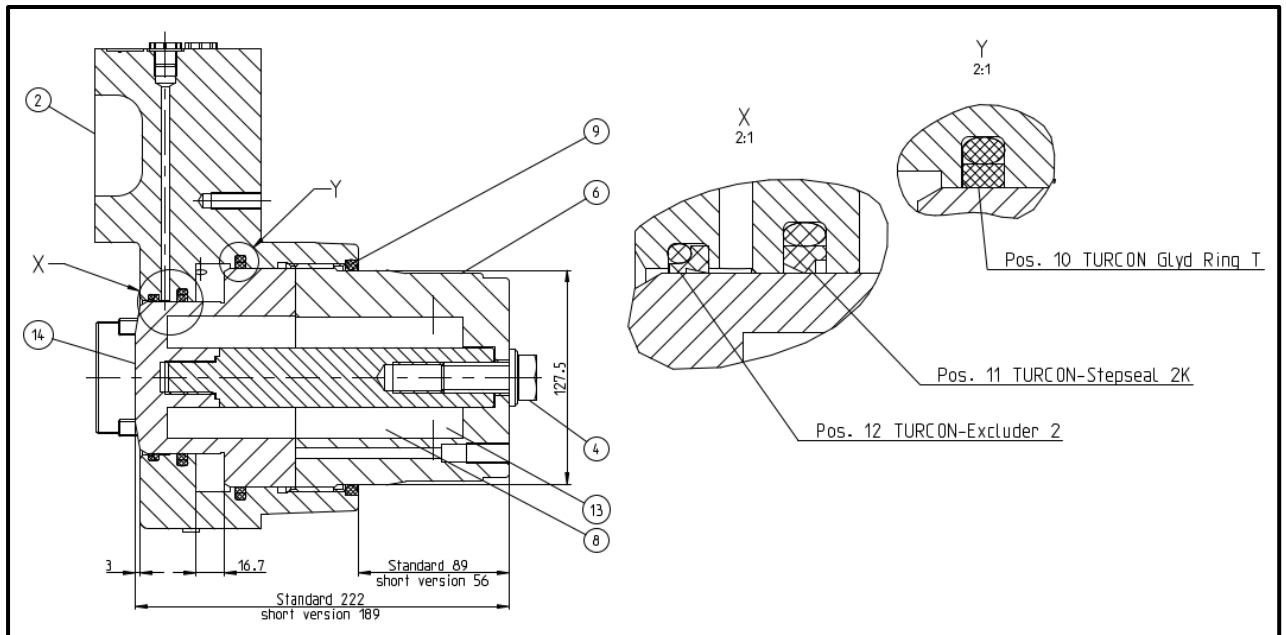

Fig. 11.3
Prior to assembly and installation, the brake caliper housing should be inspected for damage, cleaned and lubricated. Install the new seals and the new double wiper in the brake caliper housing. Observe the correct installation position for the seals and the double wiper as shown in Fig 11.3. The incorporation should be occur by hand to ensure that the sealing edge is not damaged. The seal and the doble wiper can be inserted more easily be bending it into a kidney shape and laying it into the groove. Oiling the seal with a light coat of Molycote prior to assembly. Push the piston centric with a press or beat with a plastic hammer into the cylinder bore to the stop point. After insert the disc spring with the same arrangement and the supporting disk to Fig.11.3, turn the spring retainer item 6 lightly lubricated with Molycote back into the brake caliper housing to the extent a 246 mm to Fig. 11.3. Now tense with the security screw M18x1,5x60 item 4 the plate springs. To the facilitate assembly of the safety screws, can give also be hydraulic pressure to the brake caliper at mounting the safety screws M18x1,5x60 item 4. As final step, push the O-ring item 9 back in the housing.